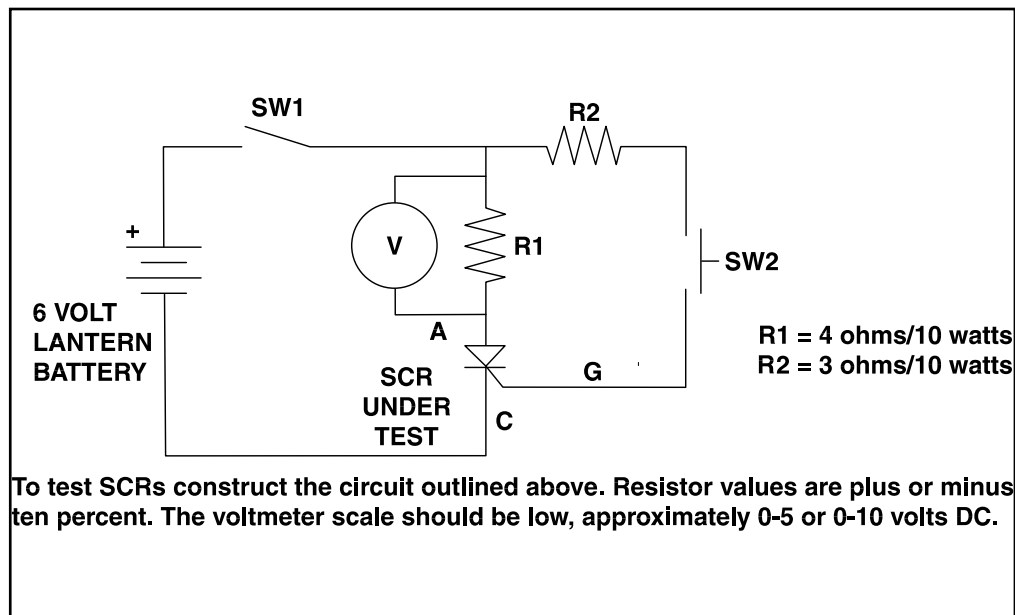

FIGURE F.17- Silicon Controlled Rectifier (SCR) Test Setup
4. Perform test procedure as follows. Refer to Figure F.17. Repeat test for all six SCRs.
5. To test SCRs, construct the circuit outlined in Figure F.17. Use one 6V lantern battery. Resistor values are in ohms $\pm 10\%$. The voltmeter scale should be low, approximately 0-5 or 0-10 volts.